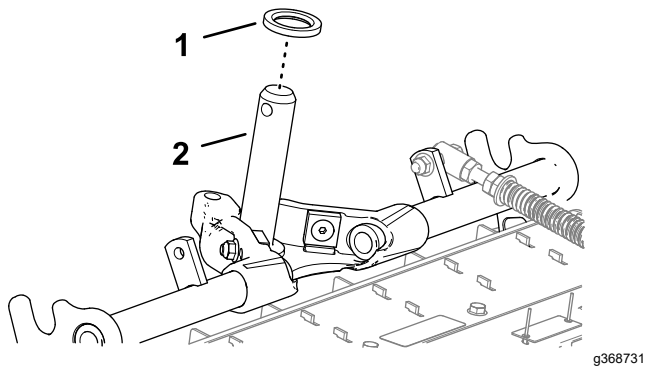

Figure 24
1. Ensure that the countersunk thrust washer is inserted over the carrier-frame shaft (Figure 24).